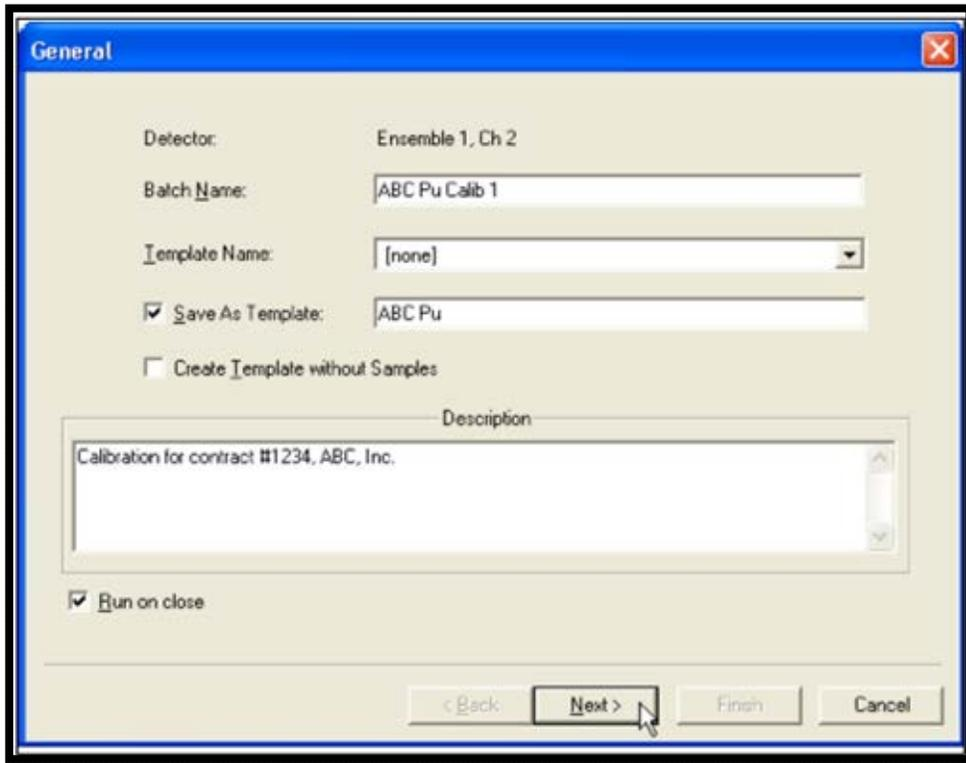

Figure 155. Calibration Wizard Screen 1 – General
- 1) To begin the count, click **Process Calib** on the Toolbar. This will open the first screen of the AlphaVision Calibration Wizard, General (Figure 155).